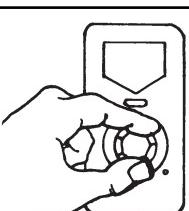

Figure 6
- C. Set thermostat knob to OFF position and then remove knob by lifting knob from shaft (see Figure 6).